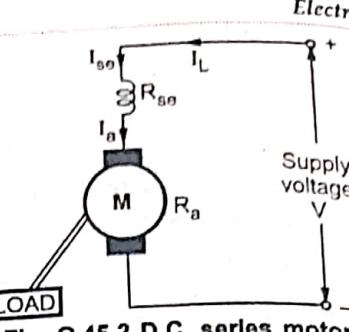

Fig. Q.45.2 D.C. series motor
2. **D.C. Series motor** : The series field winding is connected in series with the armature and the supply, as shown in the Fig. Q.45.2.